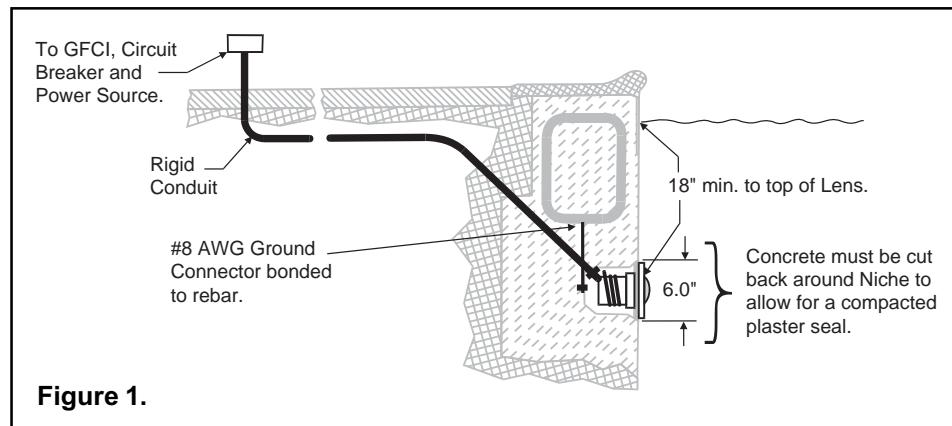

Figure 1.
- A. The electrician must complete preparatory steps before light fixture is installed; see Figure 1.
1. Feed cord through conduit to Junction Box, leaving at least 4 feet of cord at the light fixture to coil around the light; see Figure 1. This 4 feet of cord around the light allows the light to be serviced after the pool is filled with water.
5. Leave at least 4 feet of cord to coil around the light fixture; see Figure 1. This 4 feet of cord coiled around the light allows the light to be serviced after the pool is filled with water.